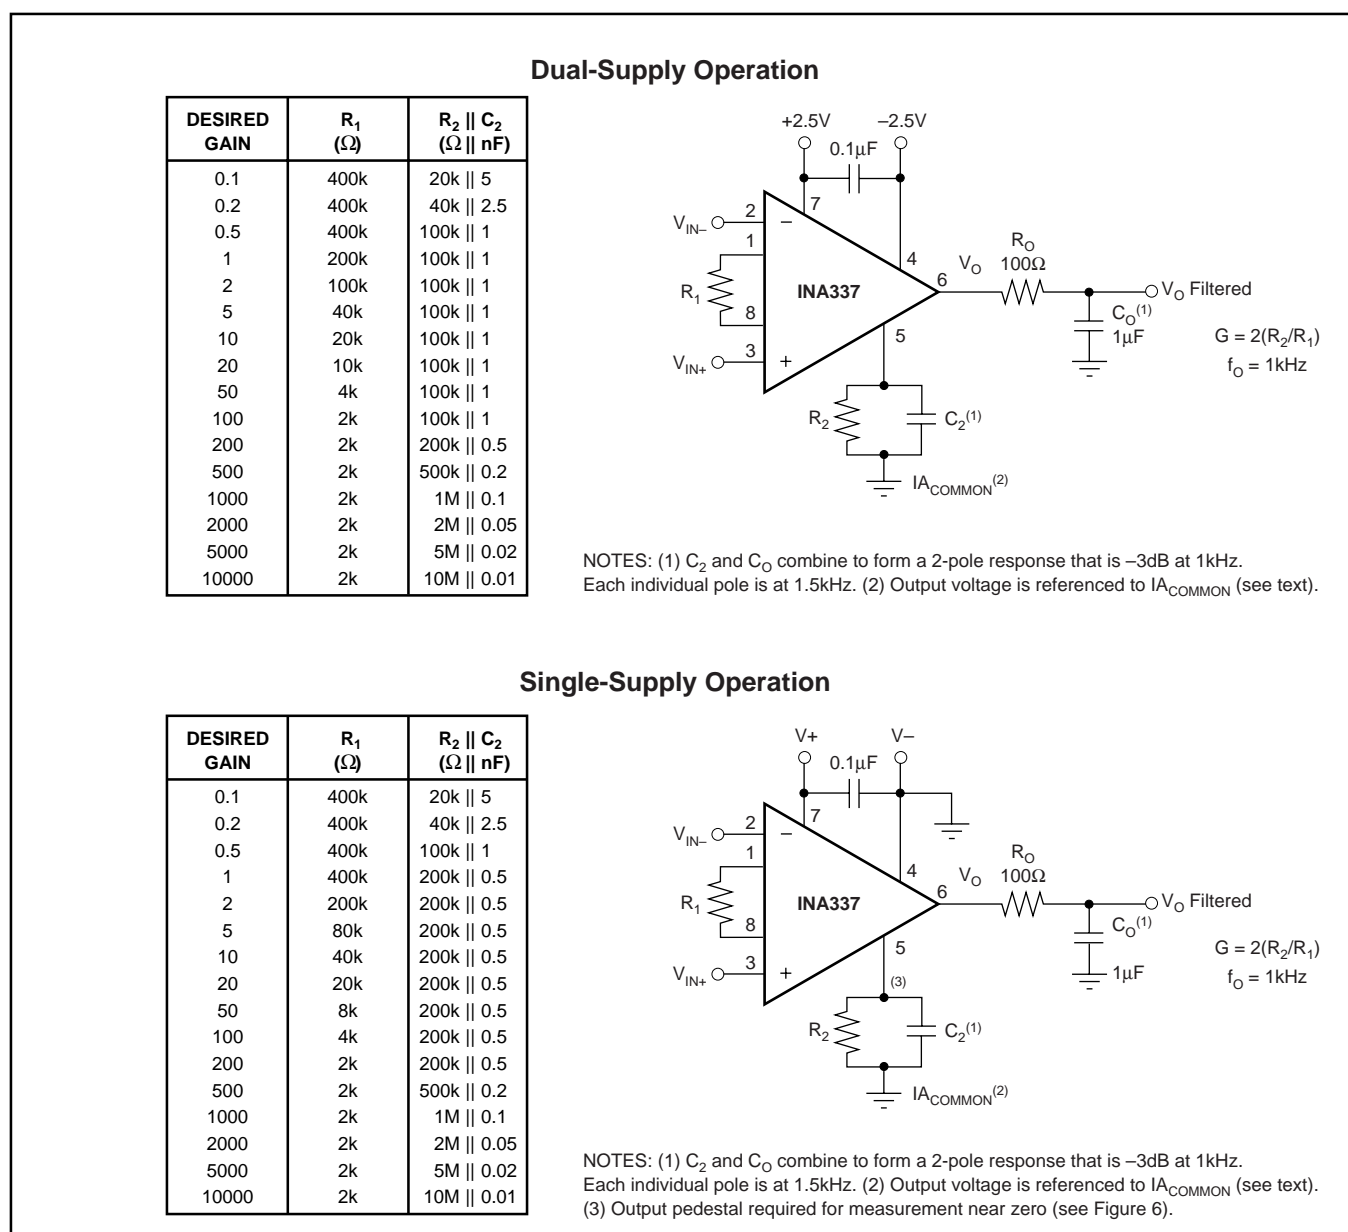

FIGURE 1. Basic Connections. NOTE: Connections for INA338 differ—see Pin Configuration for detail.
NOTES: (1) 1000-hour life test at $150^{\circ}C$ demonstrated randomly distributed variation in the range of measurement limits—approximately $10\mu V$. (2) See Applications Information section, Figures 1 and 2. (3) Does not include error and TCR of external gain-setting resistors. (4) Dynamic response is limited by filtering. Higher bandwidths can be achieved by adjusting the filter. (5) See Typical Characteristics, "Input Offset Voltage vs Warm-Up Time".
Figure 1 shows the basic connections required for operation of the INA337. A 0.1µF capacitor, placed close to and across the power-supply pins is strongly recommended for highest accuracy. R_OC_O is an output filter that minimizes auto-correction circuitry noise. This output filter may also serve as an anti-aliasing filter ahead of an Analog-to-Digital (A/D) converter. It is also optional based on desired precision.
Resistor values for commonly used gains are shown in Figure 1. Gain-set resistor values for best performance are different for +5V single-supply and for ±2.5V dual-supply operation. Optimum value for R₁ can be calculated by:
Circuit layout and supply bypassing can affect performance. Minimize the stray capacitance on pins 1 and 8. Use recommended supply bypassing, including a capacitor directly from pin 7 to pin 4 (V_+ to V_-), even with dual (split) power supplies (see Figure 1).